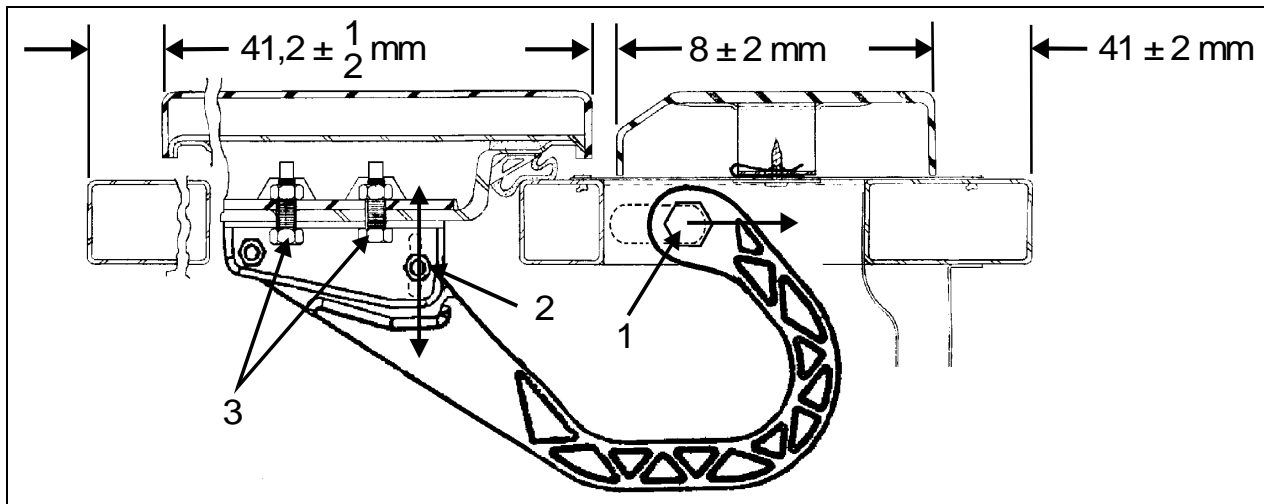

FIGURE 75: EVAPORATOR DOOR
2. Loosen nut (1, Figure 75).
4. Tighten nut (1, Figure 75).
5. Loosen nut (2, Figure 75). Hinge allows the door to be shifted "IN or OUT".
7. Loosen screws (3, Figure 75). Screws allow the door to be shifted "UP or DOWN".